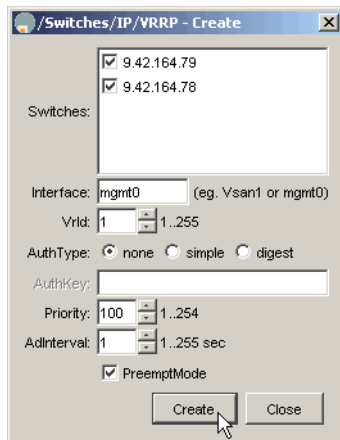

Figure 2-134 Creating VRRP group for mgmt0
2. Fill in the interface and VRRP number for the first VRRP as shown in Figure 2-134.